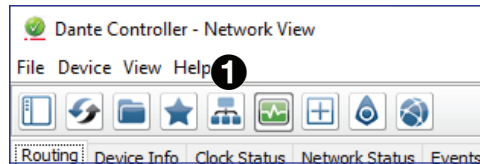

Figure 90. Choose a Dante Interface Icon
1. Click the **Choose a Dante Interface** icon (see figure 90, ❶). The **Configure Dante Interfaces** dialog box opens.